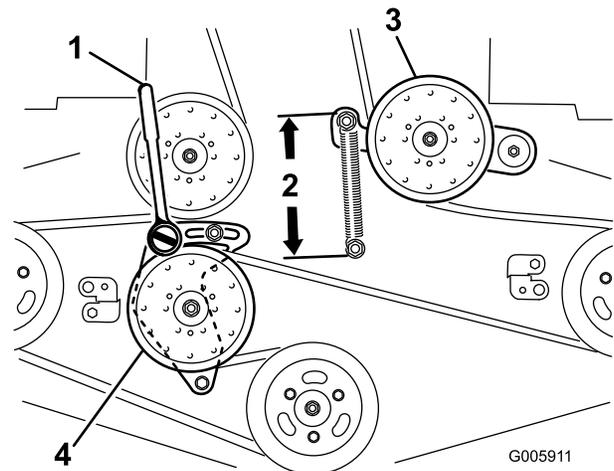

Figure 64
6. Loosen the fixed idler arm and adjust it to relieve belt tension (Figure 64).
9. Insert a ratchet with a short extension or a breaker bar into the square hole in the fixed idler arm (Figure 64).
11. To increase the belt tension, rotate the ratchet or breaker bar counterclockwise to move the fixed idler arm until there is 16.5 cm (6-1/2 inches) between the spring hooks (Figure 64).